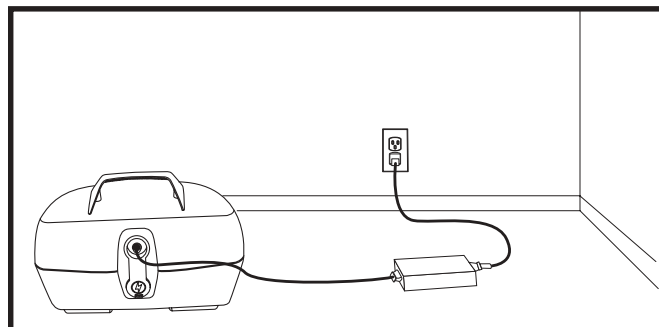

Figure 15. Charging The Batteries (Battery Pack Removed)
1. Position your Travel Scooter or battery pack close to a standard wall outlet. **See figure 15.**